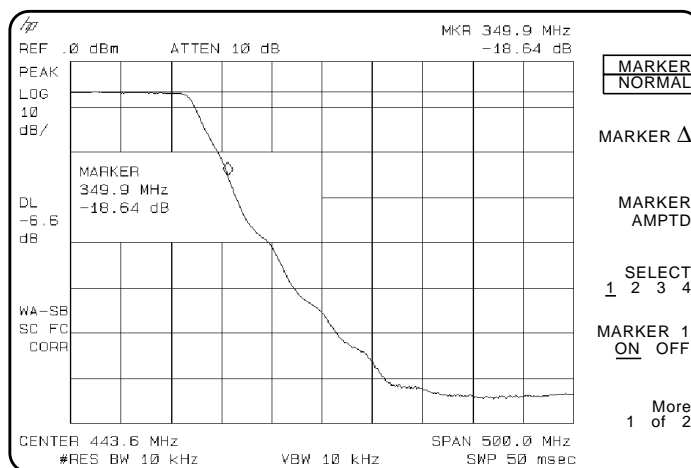

Figure 58 Measure the Rejection Range with Delta Markers
- To measure the rejection of the filter at a given frequency, press **(MKR)**, and enter the frequency. For example, enter 350 MHz. The marker readout displays the rejection of the filter at 350 MHz (see Figure 58).